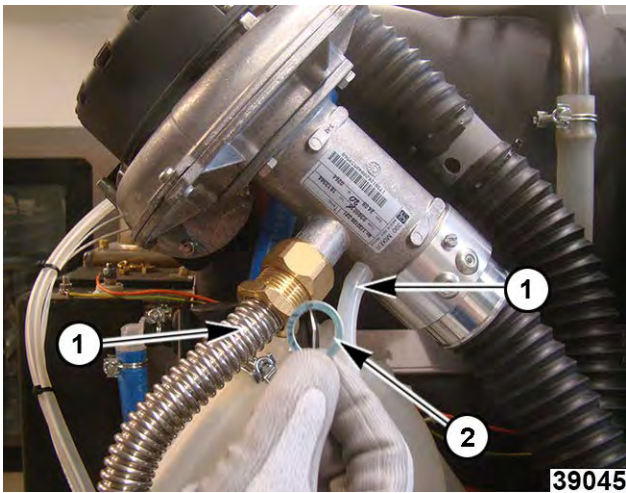

Fig. 108
NOTE: When disconnecting gas pipes, there will be a gasket (2, Fig. 108). Take care not to lose gasket or it may fall into an inaccessible area of the unit.
4. Disconnect gas piping and tubing to gas valves (1, Fig. 108).